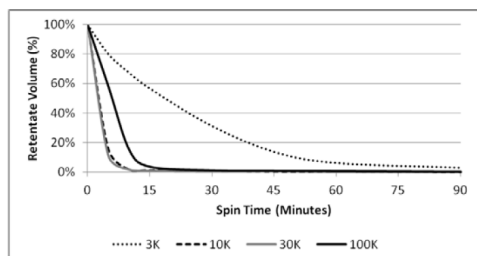

Figure 1 Protein concentration rates
Typical protein recovery is > 90% for proteins that are 2-fold greater than the membrane MWCO (see Table 2). Sample concentration of 10- to 30-fold can typically be achieved in 15 minutes or less (see Figure 1).
- For shortest concentration time we recommend using centrifuge setting near or at the maximum *g*-force recommended for a particular device and MWCO. For greater control of the concentration factor, reduce the centrifugation speed. For example concentration rates to achieve a desired volume for each MWCO, see Figure 1.